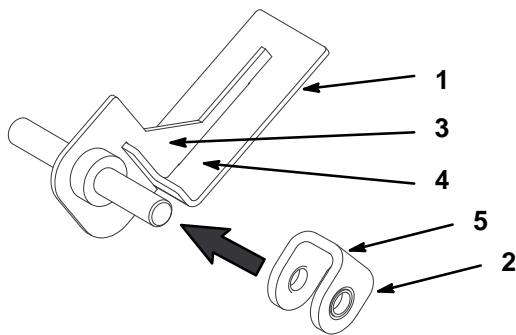

Figure 6
1. Install one of the new pivot brackets onto jig (Fig 6).
Note: Position the jig on the inside of the wheel motor mounts. When positioned correctly it will be flush to motor mount (Fig. 6 and 7).